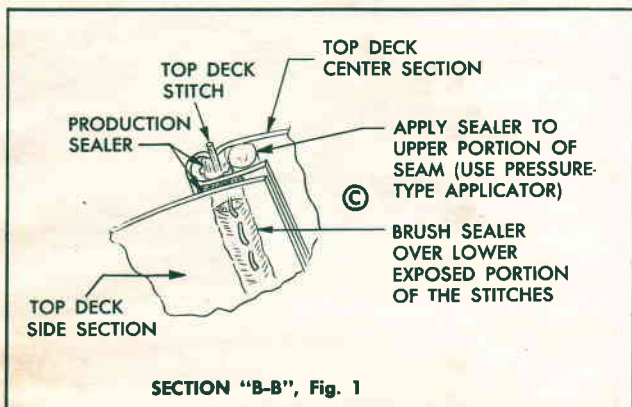

Fig. 5 Sealing Top Deck Seams
5. Position top assembly so that top material may be propped in a position to avoid contact with stay pads. Check top center section to side section seams (between the front roof rail and the rear roof bow) for proper application of production sealer. Reseal, if necessary, with 3M Super Weatherstrip Adhesive. When adhesive is dry, apply sealer to top deck seams. Use a pressure-type applicator to reach the concealed upper portion of seam and a brush to cover lower, exposed portion of seam. See "C" in section "B-B", figure 5. To seal seam rearward of rear roof bow, see step No. 10.
Adhesive. When adhesive is dry, using a pressure-type applicator, apply two beads of sealer to the top deck seams. See "C" in section "B-B", figure 5. Raise back curtain window.